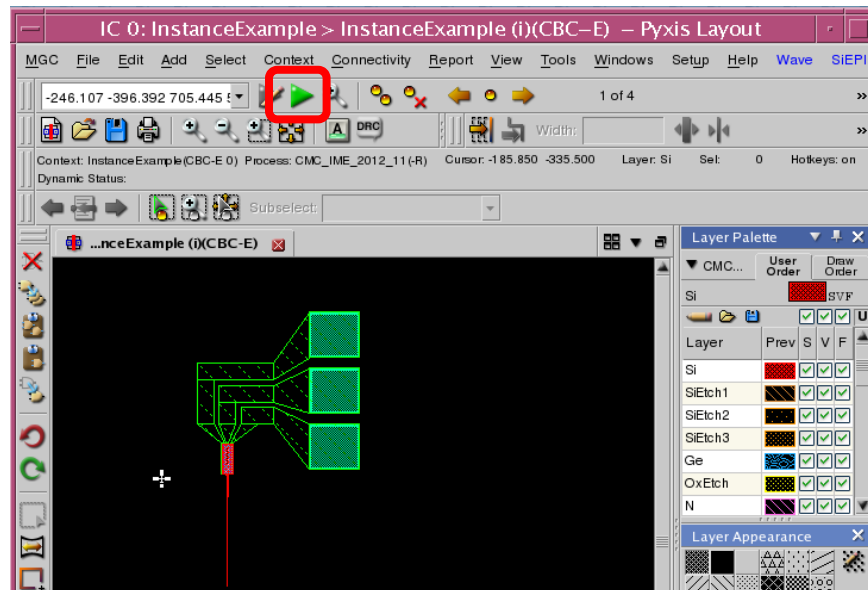

Figure 44: Running DRC on the Currently Viewed Area
- i. On the toolbar, click the icon **Run DRC** (see Figure 44).